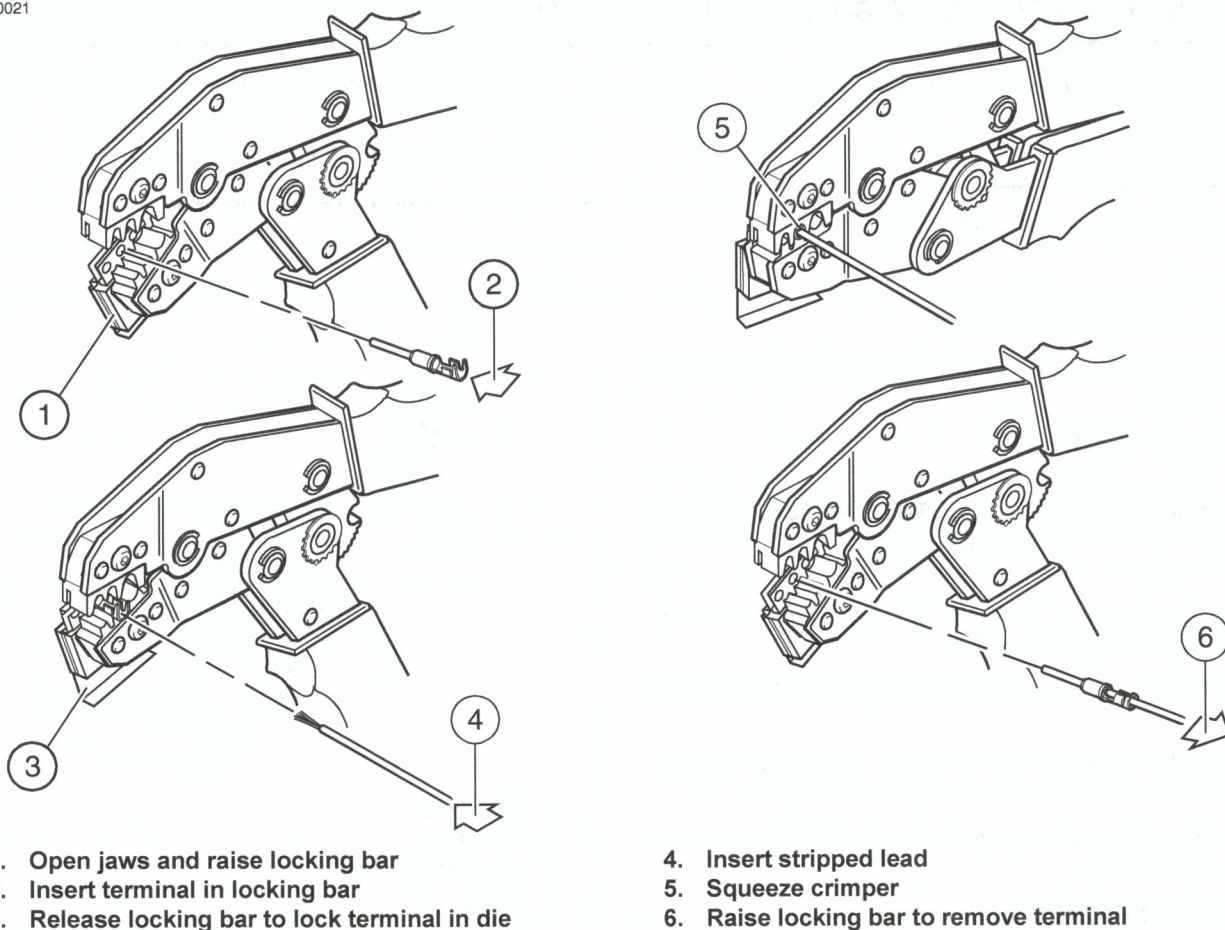

Figure A-10. Crimping a Deutsch DT Sealed Terminal
3. See Figure A-10. Open the jaws of the DEUTSCH TERMINAL CRIMP TOOL (Part No. HD-39965-A). Push the locking bar (1) up.